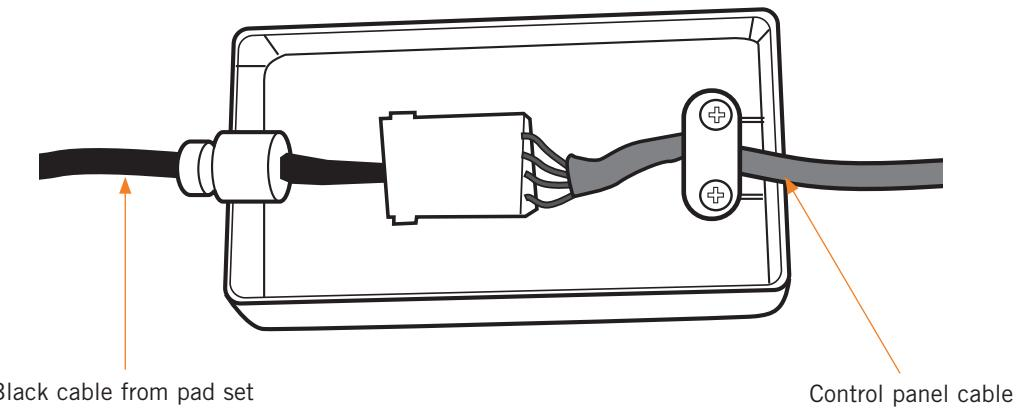

Fig.8
14. Connect the black cable coming from the pad set to the control panel cable (Fig.8).
15. Install the cable strain relief into the connector box slot, push it all the way down, then snap the connector box cover into place to secure it (Fig.8).